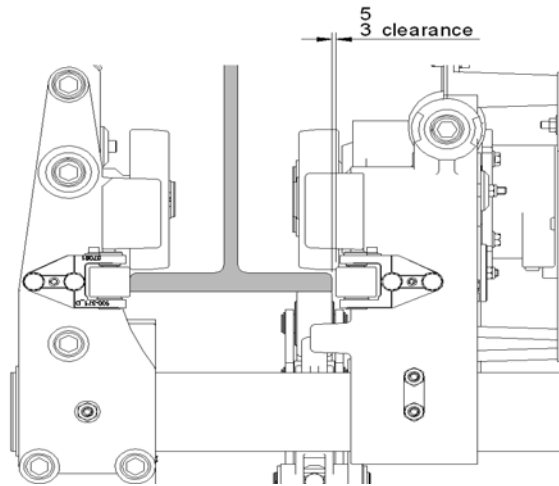

Figure 11 – Low Headroom Runway Clearance
- Push the panel side trolley onto the runway (tap with rubber / nylon mallet as necessary) until the gap between guide roller and toe of flange is between 3 and 5mm (see Figure 11). Check that the gap is the same at both ends.
Before setting the reaction roller ensure that the side guide rollers on the panel side trolley frame, i.e. the guide rollers on the same side as the reaction roller assembly, are in contact with the toe of the runway beam flange. For the setting operation the clearance between the side guide rollers and the runway flange must be on the barrel side (note this is on the **opposite** side to that shown in Figure 11).